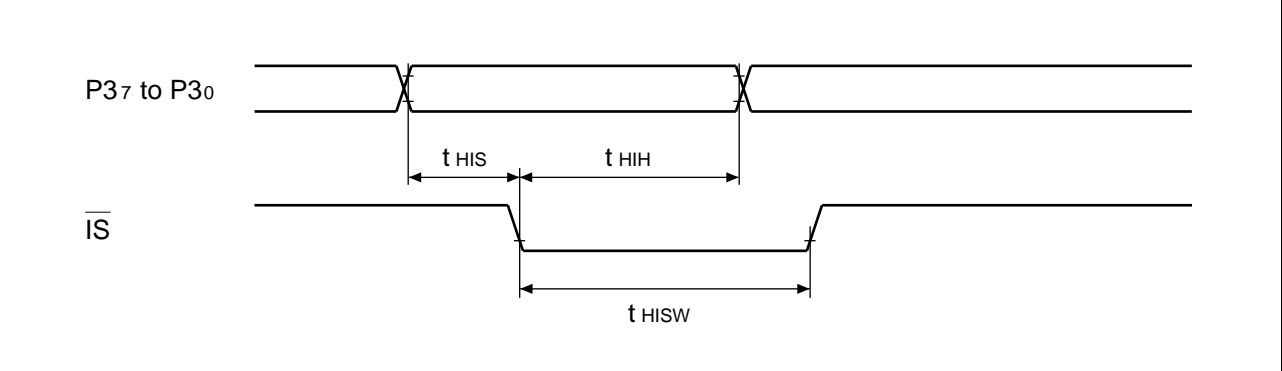

Figure 15-19. Input Strobe Input Timing
| Parallel handshake interface | Handshake input strobe pulse width | t _{HSW} | 1.5 | – | 1.5 | – | 1.5 | – | 1.5 | – | t _{cy} | Fig. 15-19 |
| | Handshake input data setup time | t _{HS} | 10 | – | 10 | – | 10 | – | 10 | – | ns | Fig. 15-19 |
| | Handshake input data hold time | t _{HS} | 120 | – | 120 | – | 120 | – | 120 | – | ns | Fig. 15-19 |
- 15.3.8 Parallel Handshaking Interface Timing Figures 15-19 to 15-21